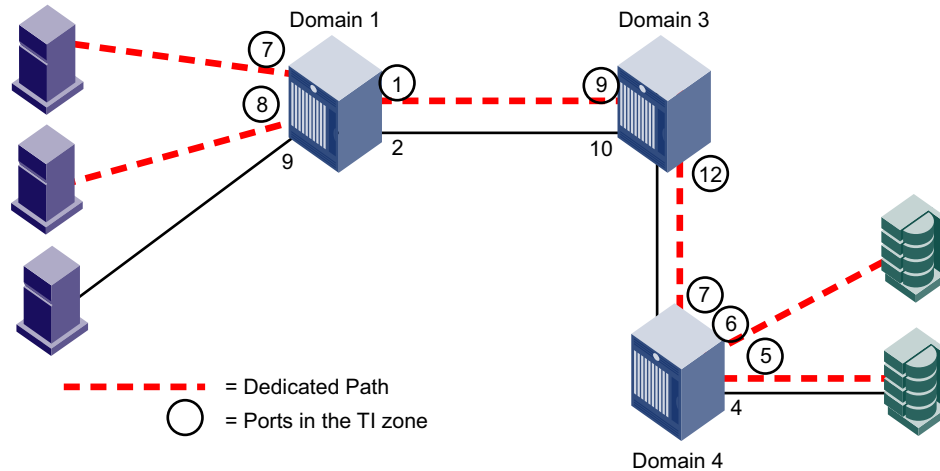

FIGURE 34 Traffic Isolation zone creating a dedicated path through the fabric
Figure 34 shows a fabric with a TI zone consisting of the following:
In Figure 34, all traffic entering Domain 1 from N_Ports 7 and 8 is routed through E_Port 1. Similarly, traffic entering Domain 3 from E_Port 9 is routed to E_Port 12, and traffic entering Domain 4 from E_Port 7 is routed to the devices through N_Ports 5 and 6. Traffic coming from other ports in Domain 1 would *not* use E_Port 1, but would use E_Port 2 instead.
For example, in Figure 34 on page 268, if the dedicated ISL between Domain 1 and Domain 3 goes offline, then the following occurs, depending on the failover option:
- This feature is intended for use in simple linear fabric configurations, such as that shown in Figure 34 on page 268.